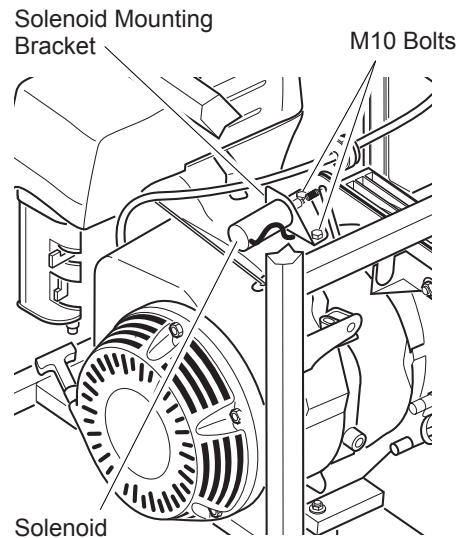

Figure 16 - Solenoid Bracket Location, Model MGR4500I
2. Loosen the two m10 bolts mounting the solenoid to the engine (see Figures 16 and 17).